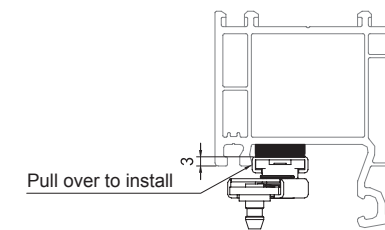

Figure 2
Step 2: The limiter should be installed at the same line position (as shown in figure 1), and it is attached to the side wall of the drain tank (as shown in figure 2);